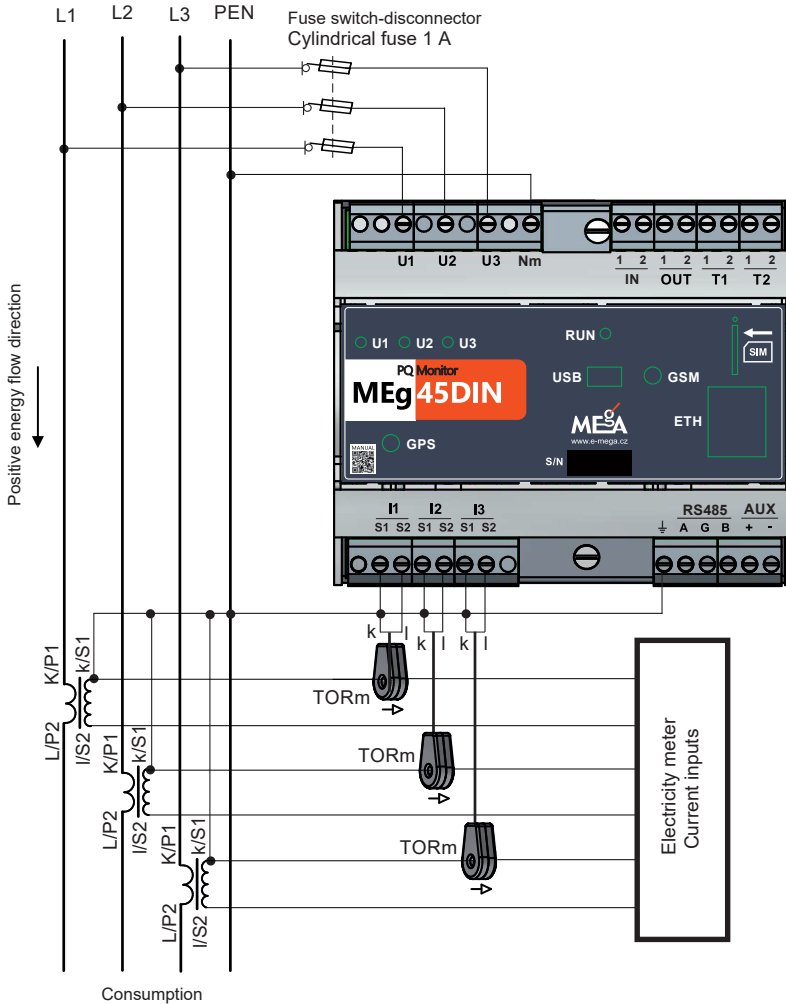

Fig. 12: Connection of MEg45DIN in a LV TN-S type network, current measurement by AMOSm sensors, category CAT IV 300 V
The use of the loops of flexible AMOSm sensor with low-voltage direct connection to specially modified current inputs of the MEg45DIN monitor is shown in Fig. 12. The connecting cable is normally 2 m long. The advantage of this special design is that it does not need an external power supply or a converter for a rated current of 1 A. The disadvantage is the need to use the MEg45DIN with special current inputs.
- e) Before installing three **AMOSm** sensor loops on phase conductors with measured current according to Fig. 12, check the marking I1, I2 and I3 on the individual sensors and the conformity of the serial numbers of all three AMOSm sensors with the serial number of the MEg45DIN monitor with which they were calibrated by the manufacturer. Then, check the AMOSm marking near the current on the rating plate of the installed MEg45DIN monitor.